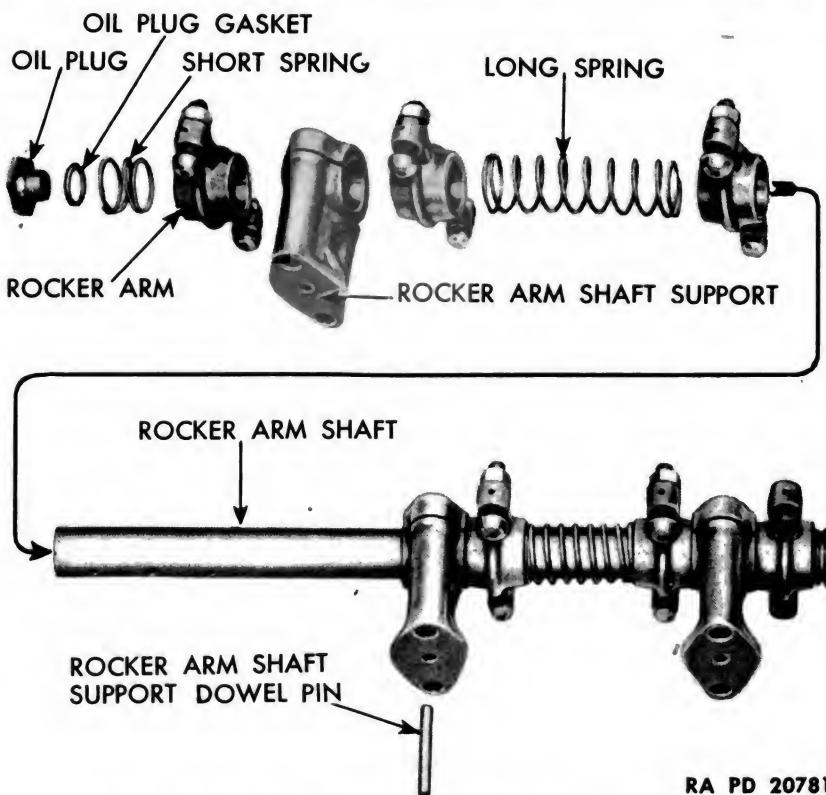

Figure 49 — Rocker Arm Shaft Components
a. Disassemble. Remove hexagonal-headed oil plug screwed into each end of rocker arm shafts (fig. 49). Slide two short springs,
two long springs, three rocker arm supports, and six rocker arms from shaft (fig. 49).
e. Assemble. Assemble plug with new gasket at one end of one rocker arm shaft (fig. 49). Assemble rocker arms, springs, and supports on shaft in the order shown in figure 49. Assemble plug with new gasket at other end of shaft, and tighten. Use same procedure to assemble other rocker arm shaft.